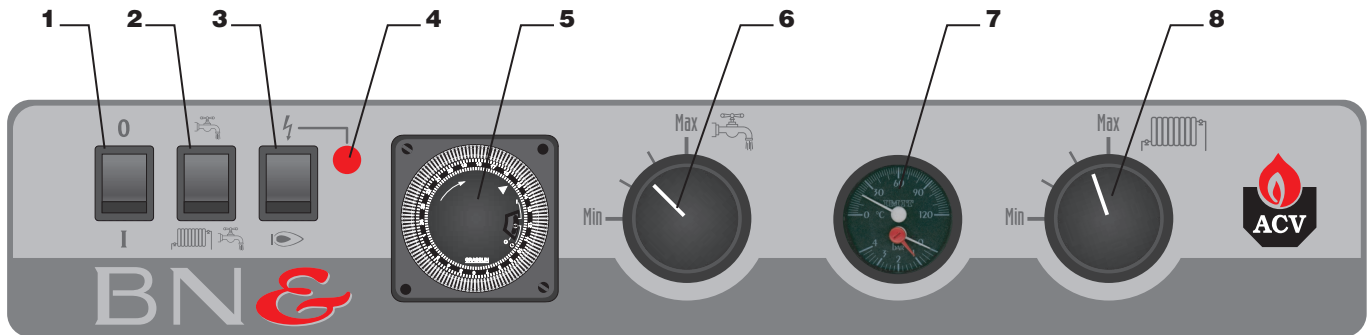

Fig. 1: Control panel
- **You should familiarise yourself with the control panel** (Fig. 1)